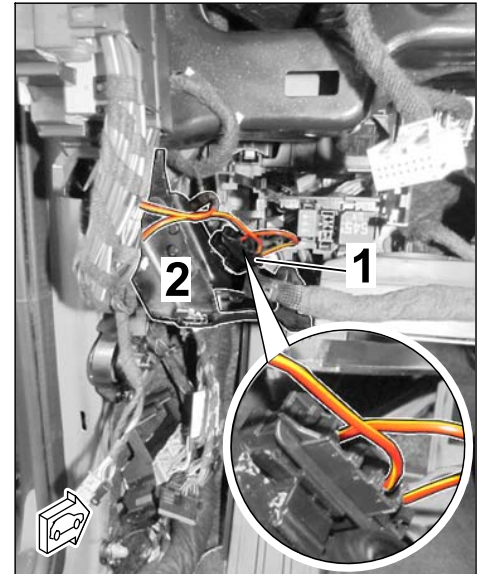

Figure 34
2.6.8 Fit pin connector socket (3-pin) with clip onto the dashboard bracket and connect plug connection (3-pin) (⇒ *Figure 34*).